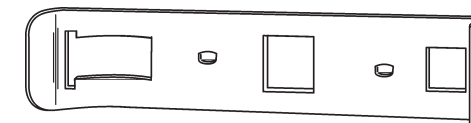
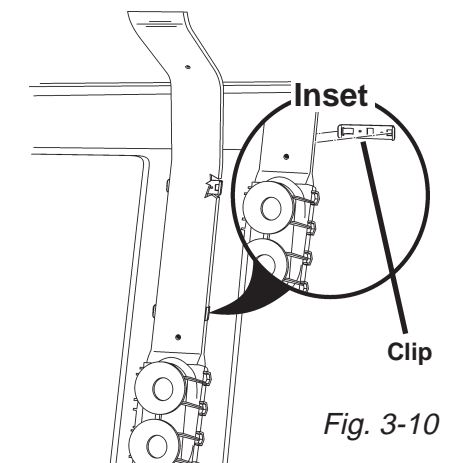

Fig. 3-9
Fig. 3-10
The Inner Feed Tube is held in place by two (2) metal clips. (Fig. 3-9) One is located on the inner top of the dishwasher tub. The second is located on the back of the dishwasher tub. (Fig. 3-10, Inset)